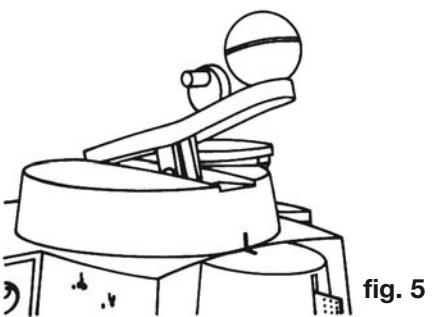

fig. 5
- a. The carousel only turns when the lever is in the raised position (see fig. 5)
- c. The lever can only be pushed down when it points to the front of the machine (see fig. 5 and 7)
- lever in front of machine (see fig. 5)